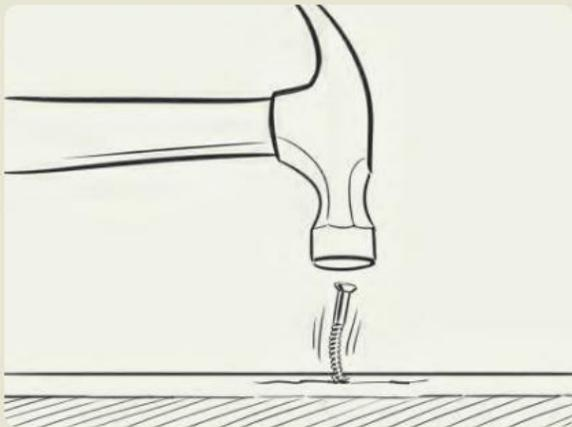

Figure 3.63 A countersunk screw driven in wood by a hammer
- 4 Figure 3.63 shows a screw that has been driven into timber with a hammer. What are two effects of driving a screw into timber with a hammer?